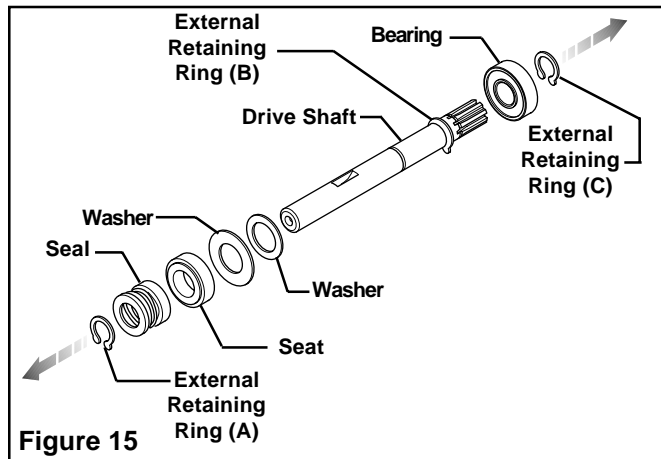

Figure 15
8. Remove the External Retaining Ring (A) from the Drive Shaft; then, slide the Seal, Seat, large Washer, and small Washer off the Drive Shaft in the direction indicated (See Figure 15).
9. Remove the External Retaining Ring (C); then, press the Bearing off the Drive Shaft in the direction shown (See Figure 15).